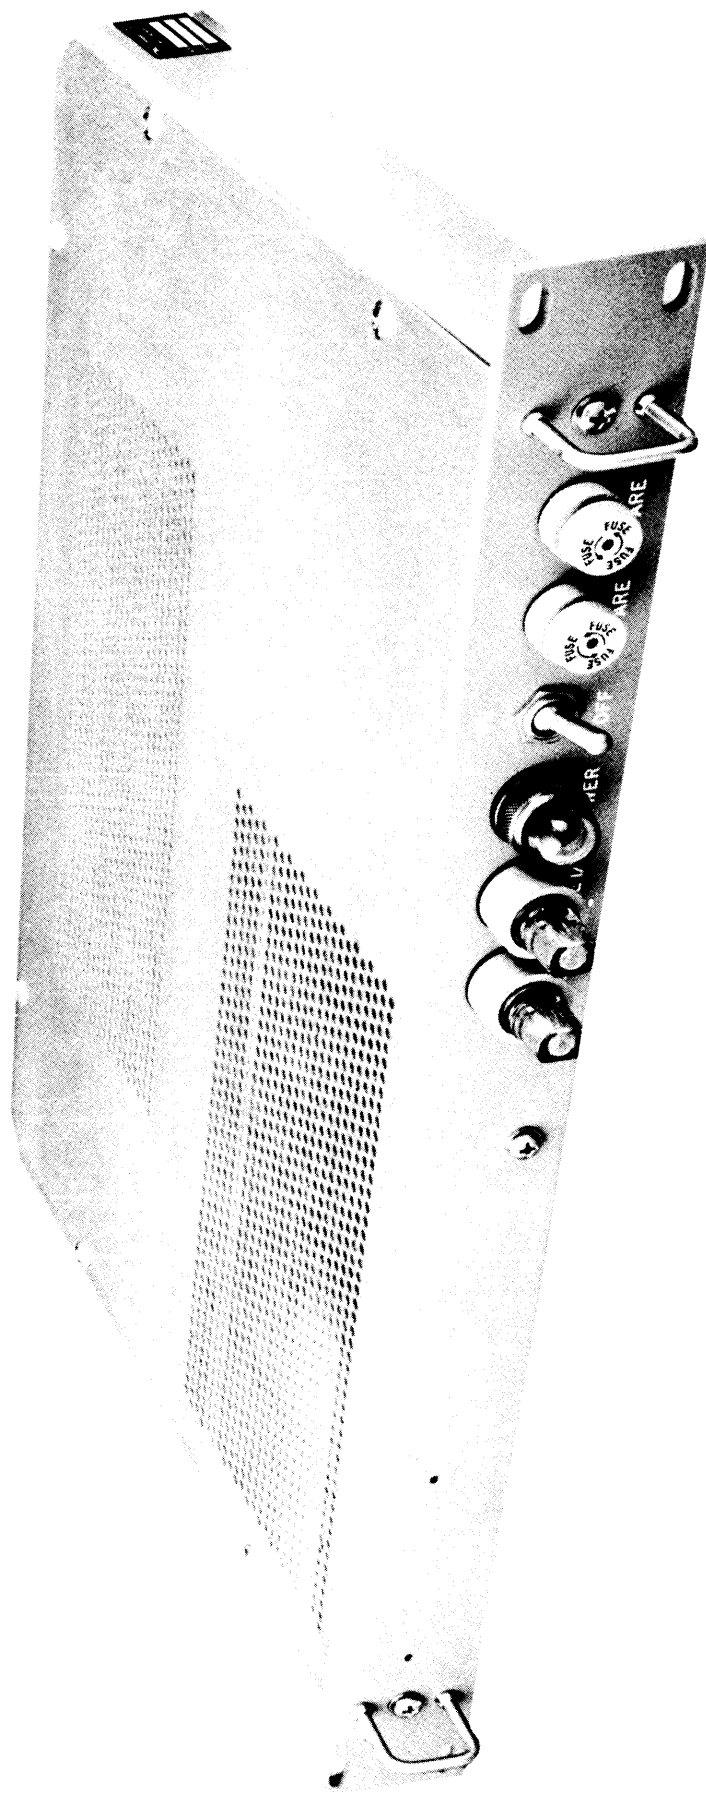

FIGURE 1-1 EIGHT OUTPUT ANTENNA MULTICOUPLER, MODEL AMC-8
(1) The Eight Output Antenna Multicoupler, Model AMC-8, (figure 1-1) is a broadband Antenna-to-Receiver coupling device which permits the use of a common antenna by eight communications receivers. Its circuitry consists of a bandpass filter, a broadband transistorized preamplifier, and eight individual buffer amplifiers. The unit is engineered in such a way that a sizeable reduction is achieved in the amplitude of signals re-radiated from one receiver to another or from one receiver to the common antenna system. The AMC-8 is provided with a bandpass filter which passes frequencies between 2 MHz and 32 MHz.
(2) The filter attenuates all signals outside the band to avoid needless overloading of amplifiers due to large signals outside the band of interest.
(3) The amplifier including buffers, has a low noise figure and yet large signal handling capability. It